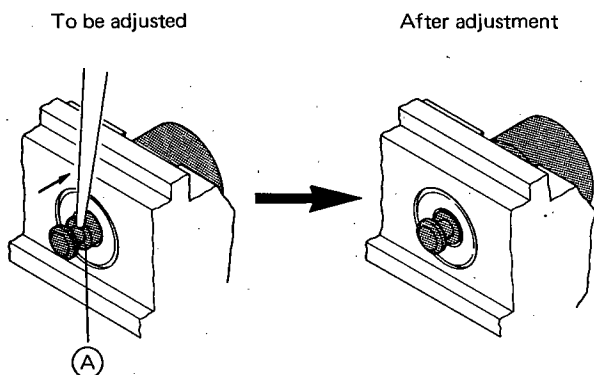

Fig. 2
The push-button set into the case must have the face (A) set at the same level as the inner side of the case (Fig. 2). For this purpose, the push-button is pushed back with a tweezers or the like to give an adjustment.